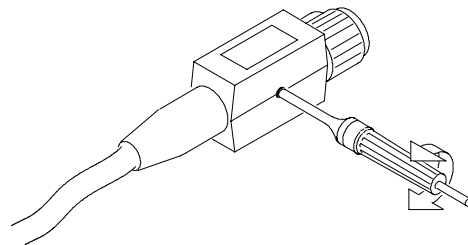

Figure 2-29: Adjusting the compensation
5. Check the shape of the displayed waveform to determine if the Sync Pickoff is compensated correctly. See Figure 2-29.
6. If necessary, adjust the sync pickoff. Repeat as needed. See Figure 2-29.